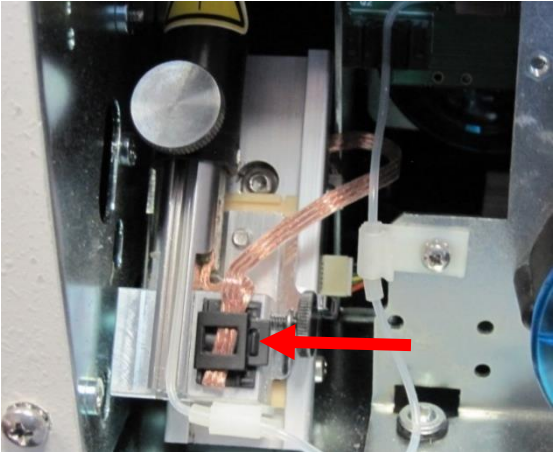

Figure 18
19. Replace the Probe Wire into the black Wire Clip. Figure 18